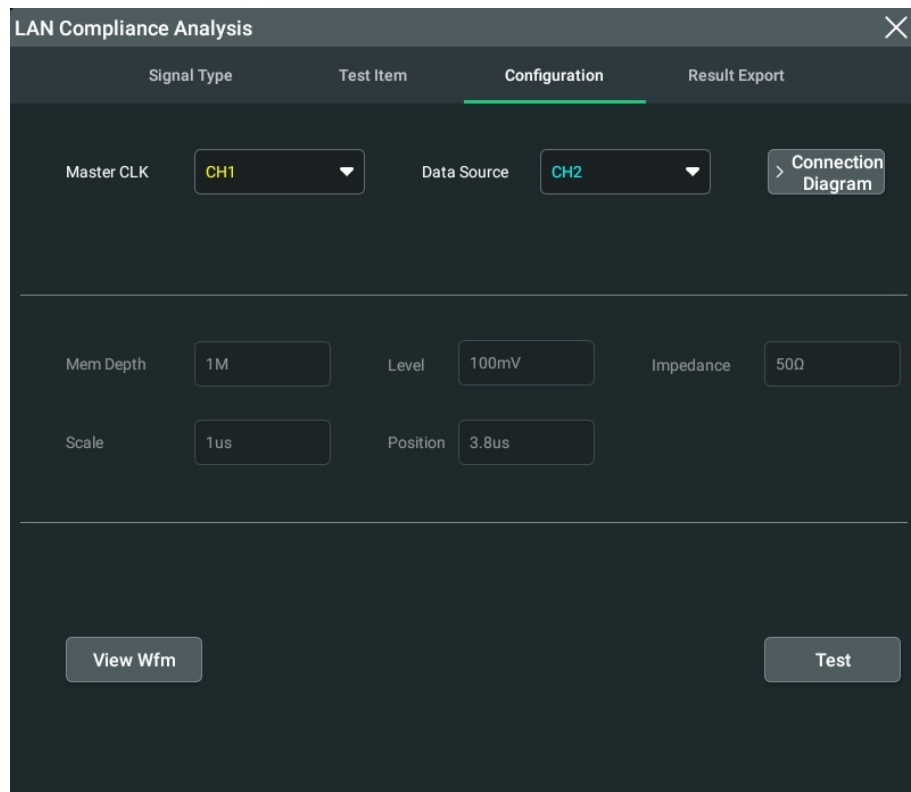

Figure 4.22 Test Configuration
4. After the specified signal type and test item are selected, the oscilloscope outputs a waveform based on the automatically set parameters such as level, scale, and impedance. Click or tap the **Configuration** tab to enter the "Configuration" menu. In this menu, you can view the parameters, as shown in *Figure 4.22*.